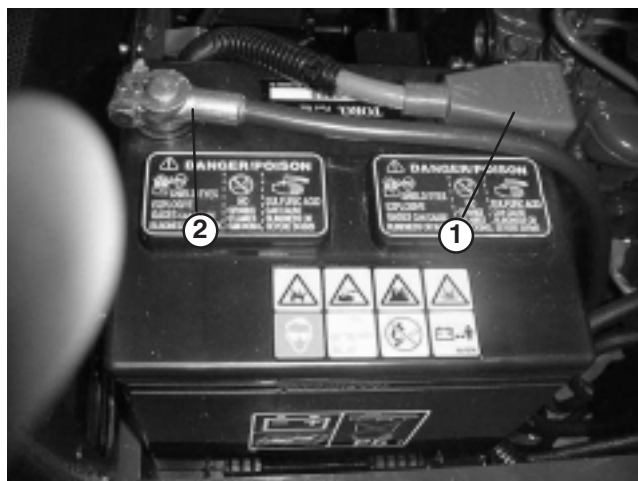

Figure 12
1. Lift engine cover. Check to see that the battery is securely fastened in place (Fig. 12).